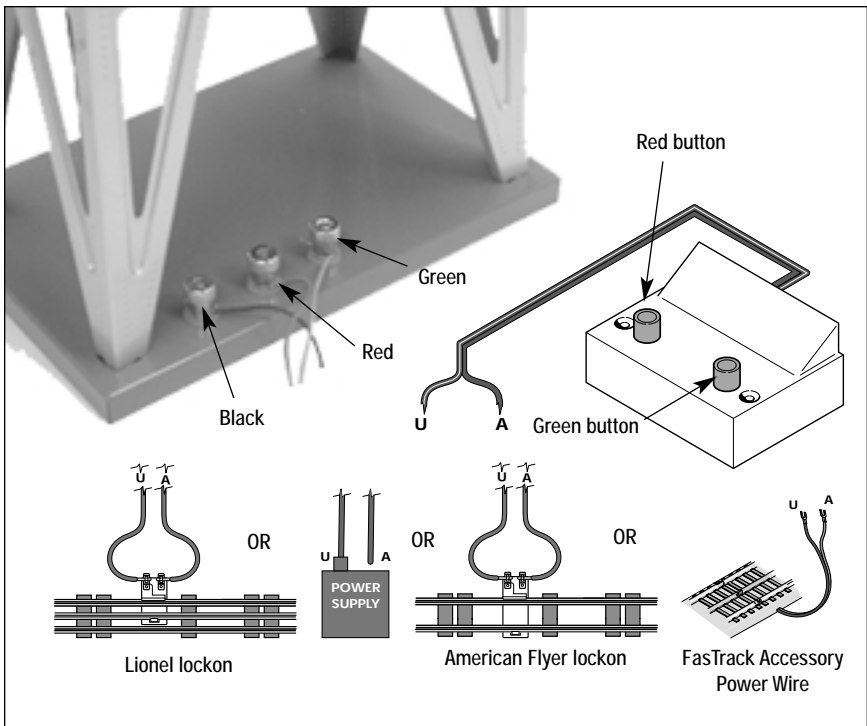

Figure 1. Electromagnetic Crane connections
1. Connect the two black wires that are attached to the controller to your power supply. Refer to Figure 1.
2. Connect the three multicolored wires from the controller to the accessory. Connect the black wire to the terminal closest to the leg, the red wire to the center terminal, and the green wire to the remaining terminal. Refer to Figure 1.